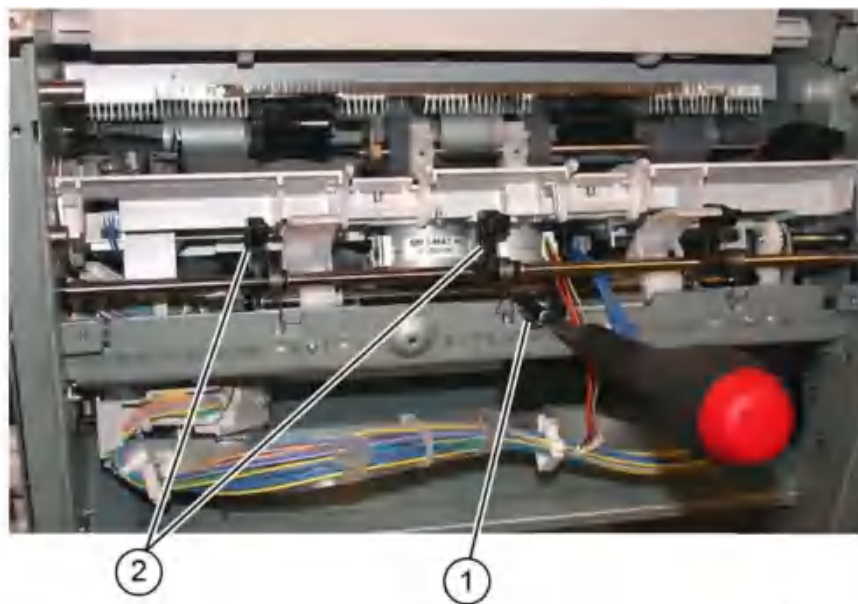

Figure 3 Compiler tray screw removal
11. Remove the compiler tray screw (1), Figure 3.